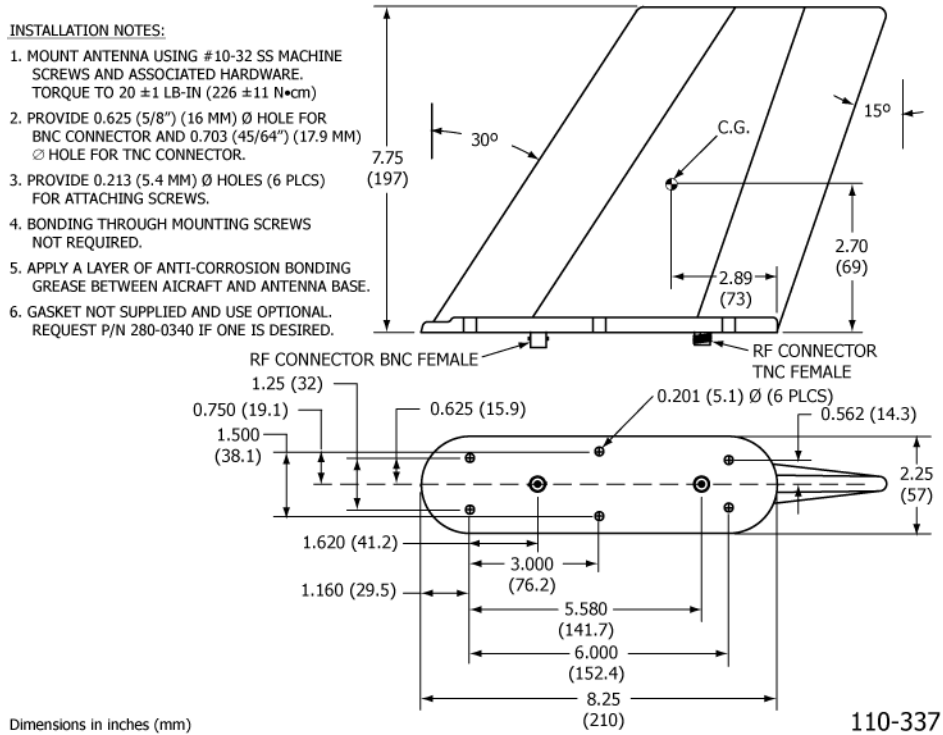
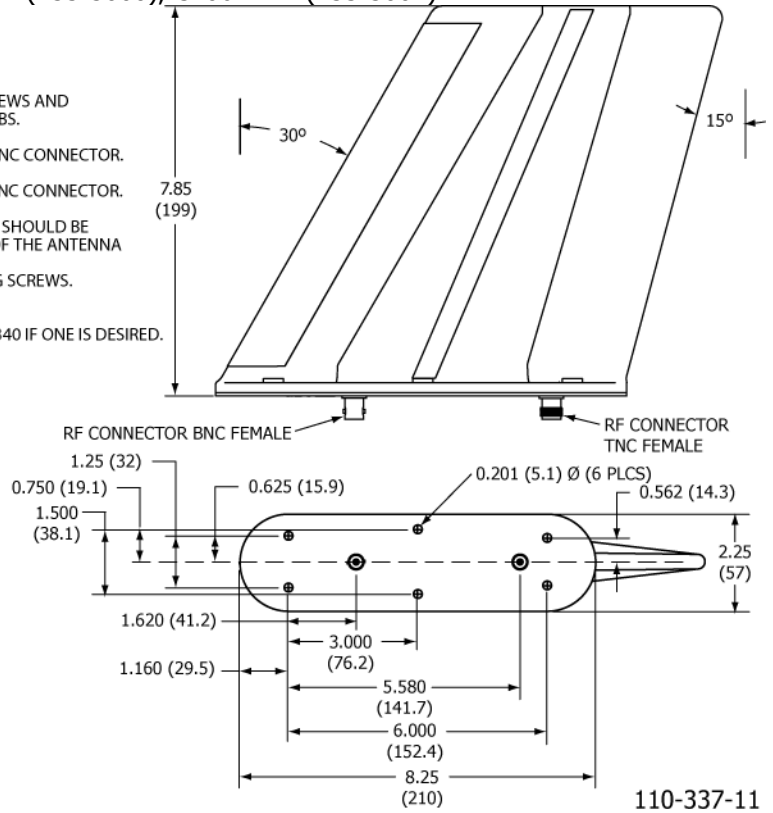

Figure 17 Blade Antennas 110-333 and 110-337 Outlines and Dimensions
Figure 18 Blade Antenna 110-337-11 Outline and Dimensions
- a) See Figure 16 on page 44, Figure 17 on page 45, and Figure 18 on page 46.